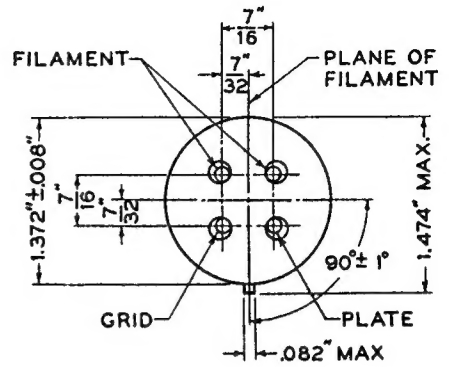

FIG. 2
**Mounting Positions—**Either vertical or horizontal. If mounted in a horizontal position, the plane of the filament, which is indicated in Figure 2, should be vertical.